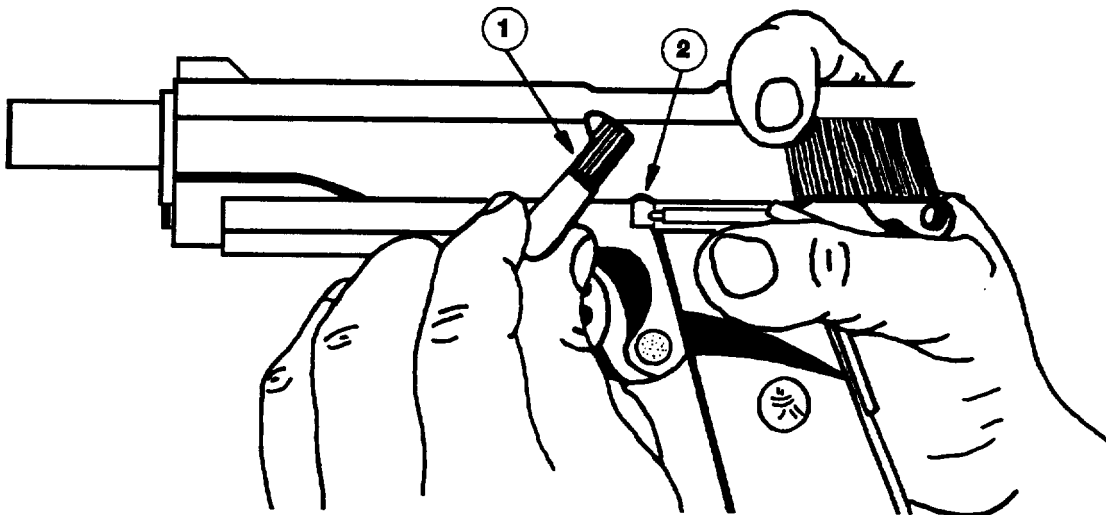
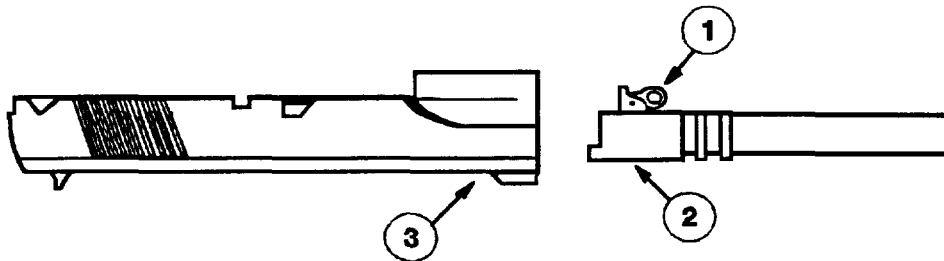
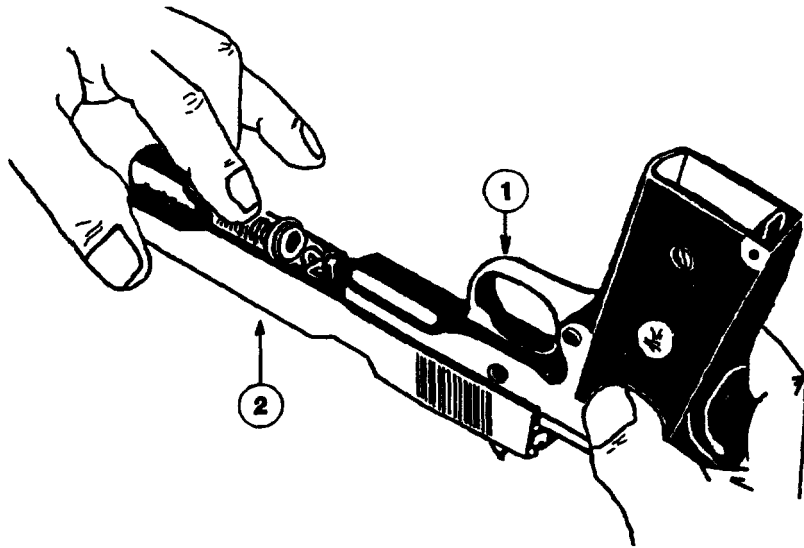

Figure 3-5. Removing The Slide Stop
Figure 3-10. Removing The Barrel
Figure 3-11. Reassembling The Slide And Receiver Assemblies
e. Remove the slide stop (1), Figure 3-5, from the disassembly notch (2) by pushing from right to left.
j. Place barrel link (1), Figure 3-10, in the forward position. Remove barrel (2) from slide assembly (3) by sliding it up over the locking recesses and out of the slide.
(1) Install the barrel (2), Figure 3-10, into the slide assembly (3). Move the barrel all the way into the locking recesses.
(1) Cock the hammer.
(2) Align the rails on the receiver assembly (1), Figure 3-11, with the groove in the slide assembly (2) and push forward stopping at the barrel link (1), Figure 3-10.
(3) With one hand, compress and hold the recoil spring and guide along the barrel, just forward of the barrel link, while pushing the receiver assembly (1), Figure 3-11, completely forward.
(4) Insert the slide stop (1), Figure 3-5, through the hole in the receiver assembly and through the barrel link (1), Figure 3-10, in the slide assembly at the disassembly notch.
(5) Cycle the slide assembly to the rear and release. Squeeze the trigger.
(6) Perform the Safety Check procedures outlined in para 6-18 on page 6-41.